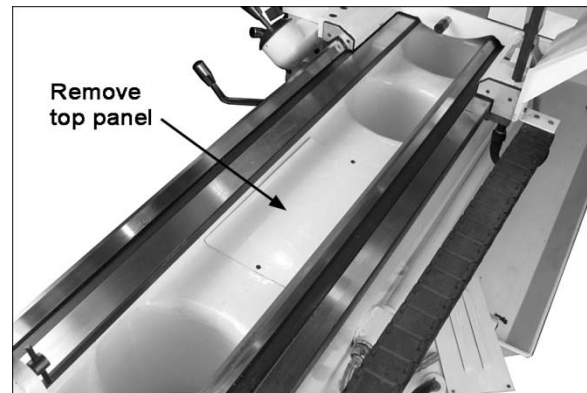

Figure 20 – Coolant pump access (GH-26120ZH)
- 1) Remove top panel inside the bed (Figure 20).